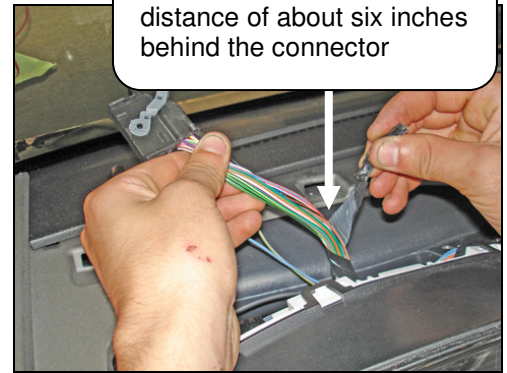

Figure 7
7. Remove the electrical tape from the harness to a distance of about six inches behind the connector (see Figure 7).